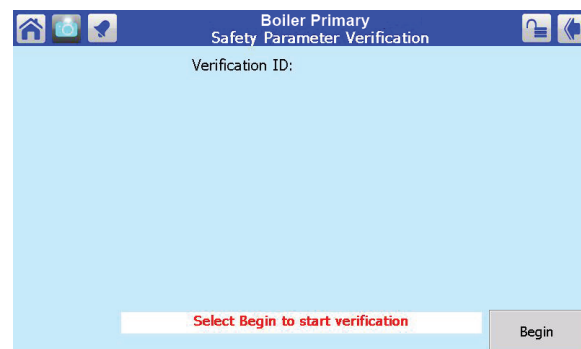

Figure 32. Reset Button on Controller
9. In a moment, you will need to reset the controller by pressing a button on the front of the unit. See Figure 32. The controllers for the two boilers are mounted behind the door on the front of the unit.